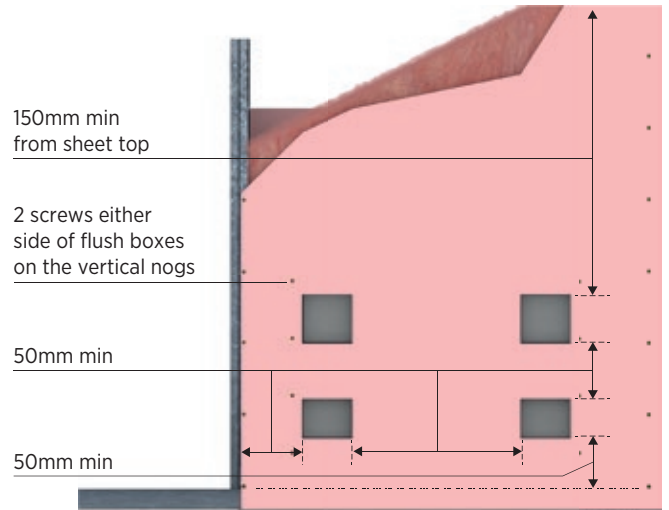

Figure 75: Installation of Plasterboard Other Side
3. Install 2 screws per box as indicated on either side of the metal flush boxes up the vertical nogs as indicated in Fig. 75.